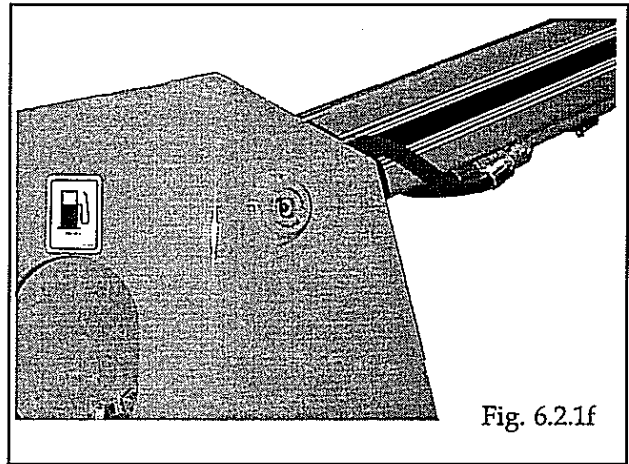

Fig. 6.2.1f
10. Tighten the chain hoist and remove the rear boom pivot pins (Fig. 6.2.1f).